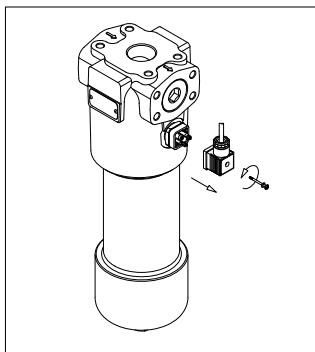

fig. 13
- (Fig. 13) Remove the connector of the differential indicator by unfastening the central screw (only for electrical indicators)
For the mounting/dismounting of the indicator, please refer to the paragraph "Clogging indicator replacement" above (Fig. 13÷16)